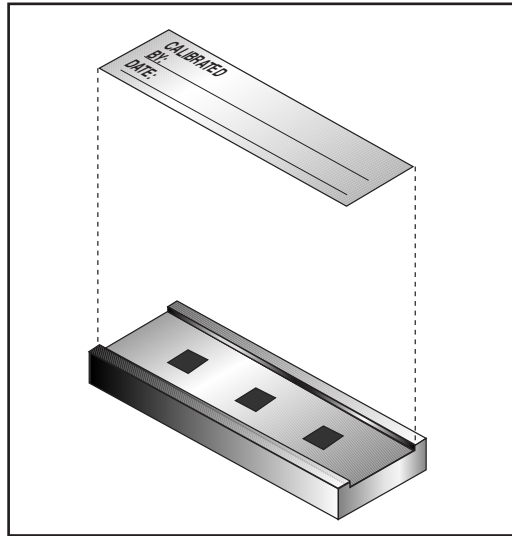

Figure 6-2. Label Application
5. Apply label to cover as shown in Figure 6-2.